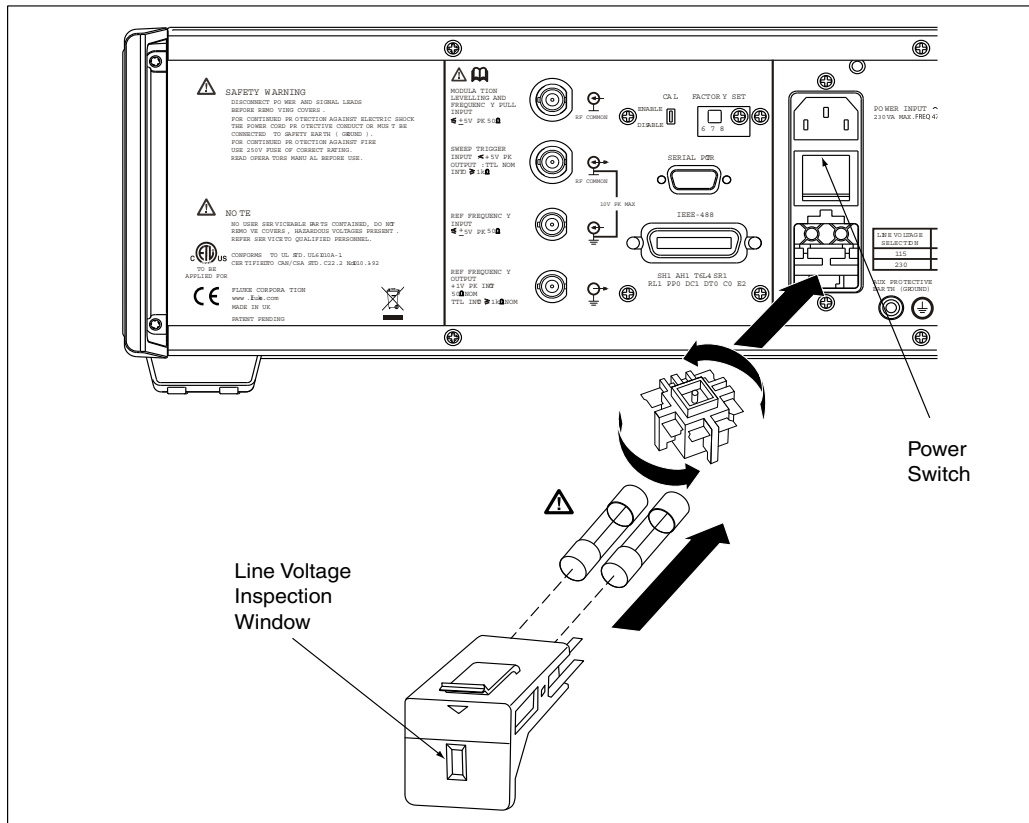

Figure 2-1. Accessing the Fuses and Changing Line Voltage
- Line-power fuse (See Table 2-4 and Figure 2-1.)
- Rear-panel switch setting (115-230, see Table 2-3 and Figure 2-1.)
The line-power fuses are located on the power block on the rear panel. The selected line-voltage (115 or 230) shows through a small window toward the bottom of the block. See Figure 2-1. This instrument has dual fusing with fuses in both the line and neutral connections. When replacing a blown fuse, replace both fuses to avoid a stressed fuse and subsequent power interruption. Before trying to access and replace the fuses, verify that the replacement fuses are appropriate for the selected voltage.
To check or replace the fuses, refer to Figure 2-1, and proceed as follows:
The line-voltage selector is located on the power block on the rear panel. The selected line-voltage (115 or 230) shows through a small inspection window toward the bottom of the block. See Figure 2-1. Use Table 2-5 to verify the selection before trying to change it.
After connecting the Instrument to line power, use the power switch on the rear panel to power-on the Instrument. See Figure 2-1.